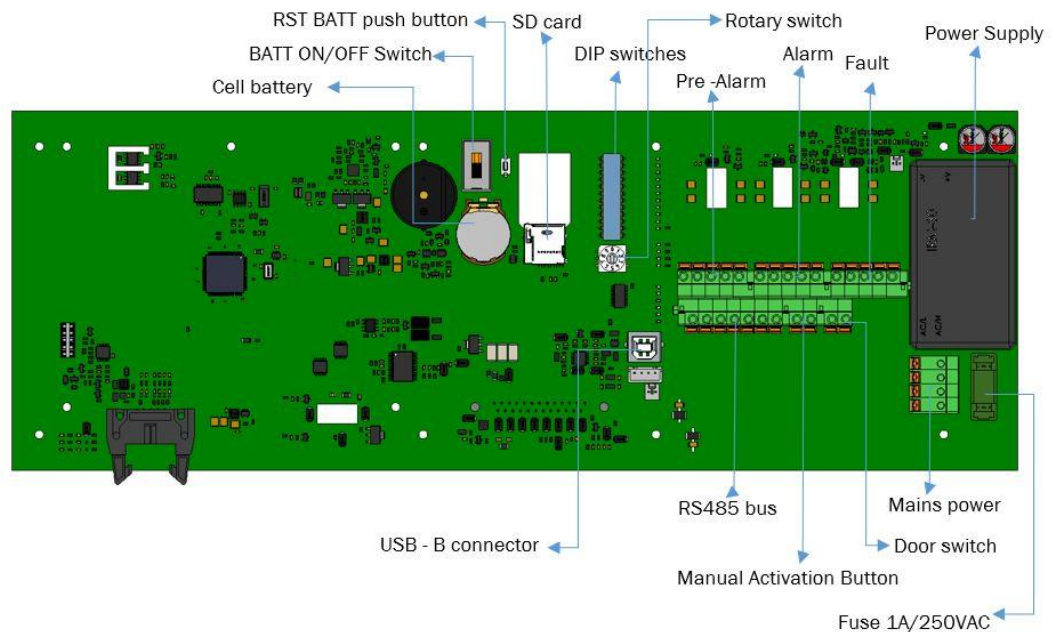

Figure 12 Main board of the FIRETRACE® CoolGen Max 1gen./2gen./3gen.
- Access to connection terminals is made via the rear access panel (right-side panel at the rear side), which can be removed by unscrewing the 6 screws, and lifting out the aluminium cover (see Figure 12 below).
Verify that the power ON/OFF switch (see Figure 12) is in the ON position to connect the battery to the main board.